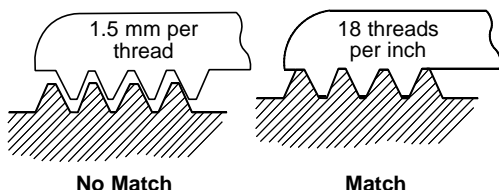

Figure 3.
- c. Try the appropriate pitch gauge form for the threads identified in Step b. above until you find a match. (See Figure 3.)